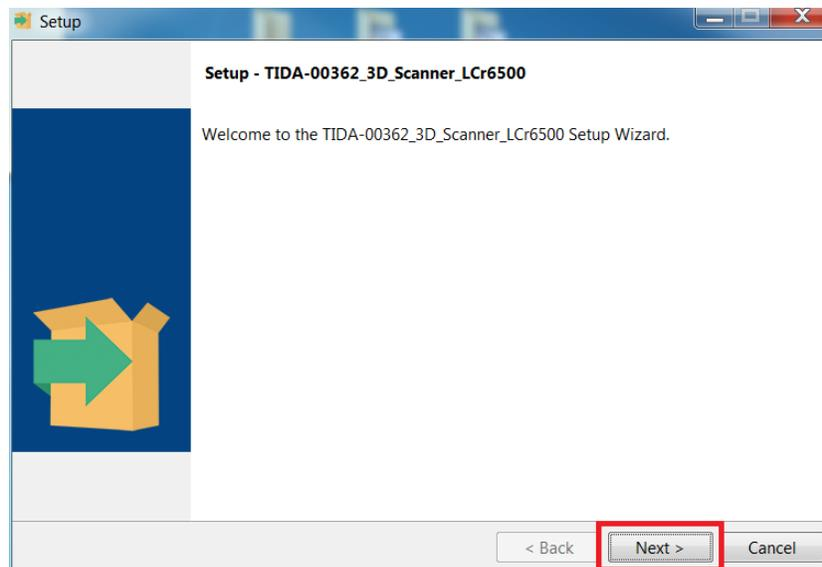

Figure 2-20. 3D Scanner Reference Design Setup Wizard Screen
3. Click the "Next" button on the install wizard setup screen, as shown in Figure 2-20.